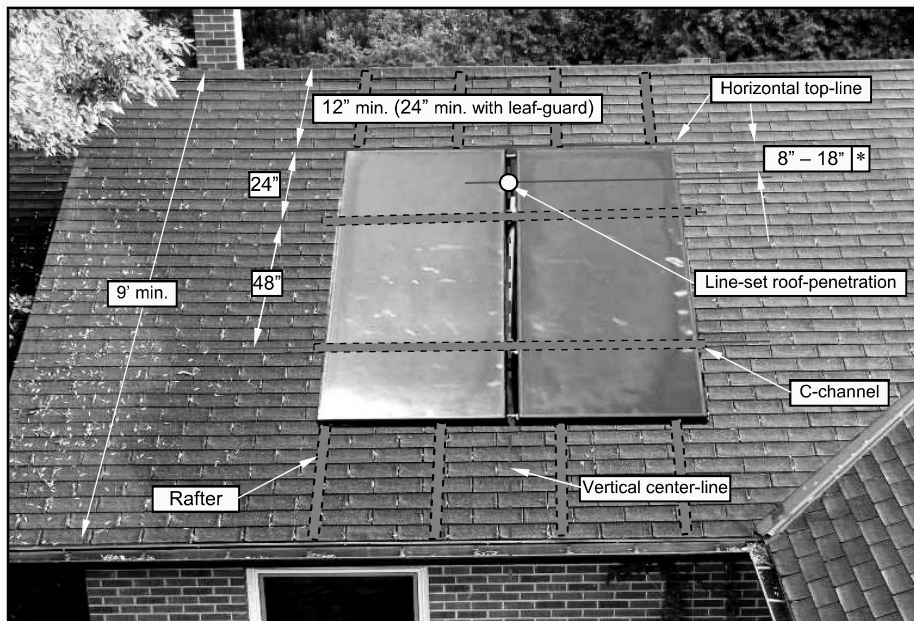

Fig. 5.2.2 – Collector mounting details.
3. Roof-penetration must be between collectors (or immediately next to collector on connection side of single-collector installation). Roof-penetration will serve as landmark to determine position of collectors and of C-channel (Fig. 5.2.2).
4. Collector dimensions are 46¼" wide x 96¼" tall (1175 mm x 2445 mm). A minimum of 10' (3000 mm) of roof slope is needed if leaf-guard is to be installed (leaf-guard is optional with 1 and 2-collector appliances, included with 3- and 4-collector appliances). Only 9' (2740 mm) of roof slope is needed for installations without leaf-guards. A minimum of 24" (610 mm) is required above collector if leaf-guard is to be installed. Only 12" (305 mm) is needed above collector for installations without leaf-guards (Fig. 5.2.2).
5. With this information and referring to Fig. 5.2.2, mark position of collector(s) and of C-channel. Note that when collectors are secured, the distance between them will be approximately 4½" (115 mm).
6. Collector mounting points are 4' or 48" (1220 mm) apart. C-channels must be mounted horizontally (use level), 48" (1220mm) apart, center to center (Fig 5.2.2).